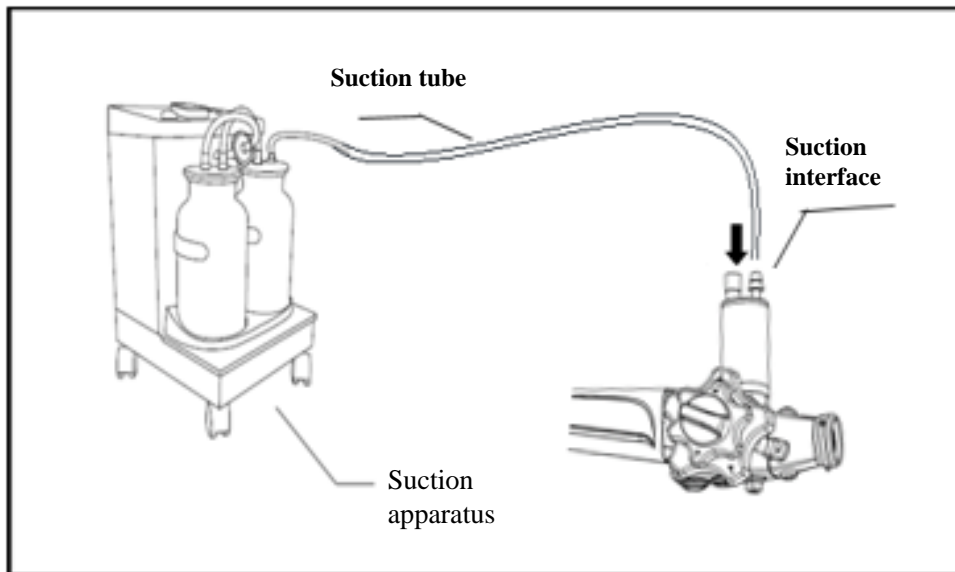

Figure 3.27
4. Connect the suction tube of the suction pump to the suction joint of the light guide plug (as shown in Figure 3.27).